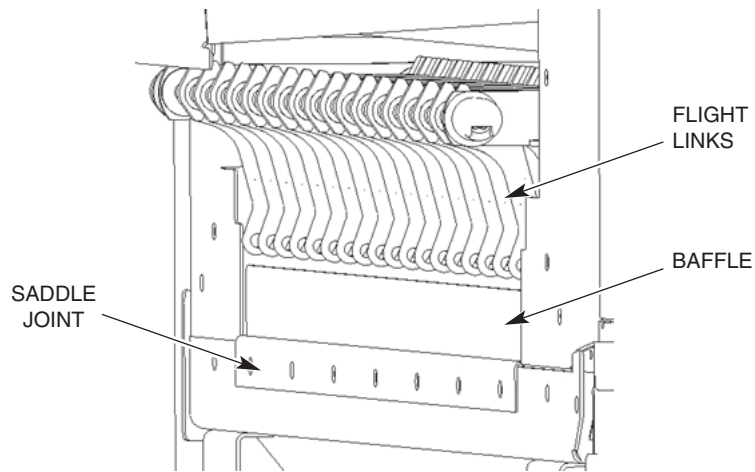

Fig. 9
3. If machine is equipped with the standard conveyor assembly, install baffles along with the saddles using same mounting hardware. Ensure baffles are adjusted to the lowest position to ensure that the baffle does not interfere with the flight links (Fig. 9).